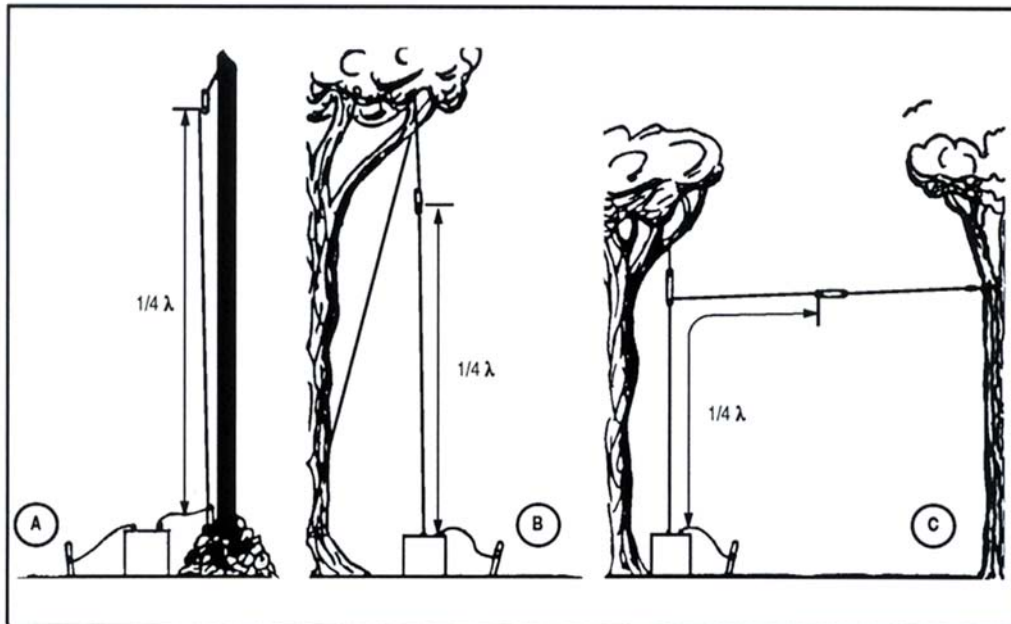

Figure 3. Quarter Wave-Length Antenna (Vertical)
- (2) Use any of the antennas mentioned in Figures 3 through 8, if there is enough space within the indoor location.